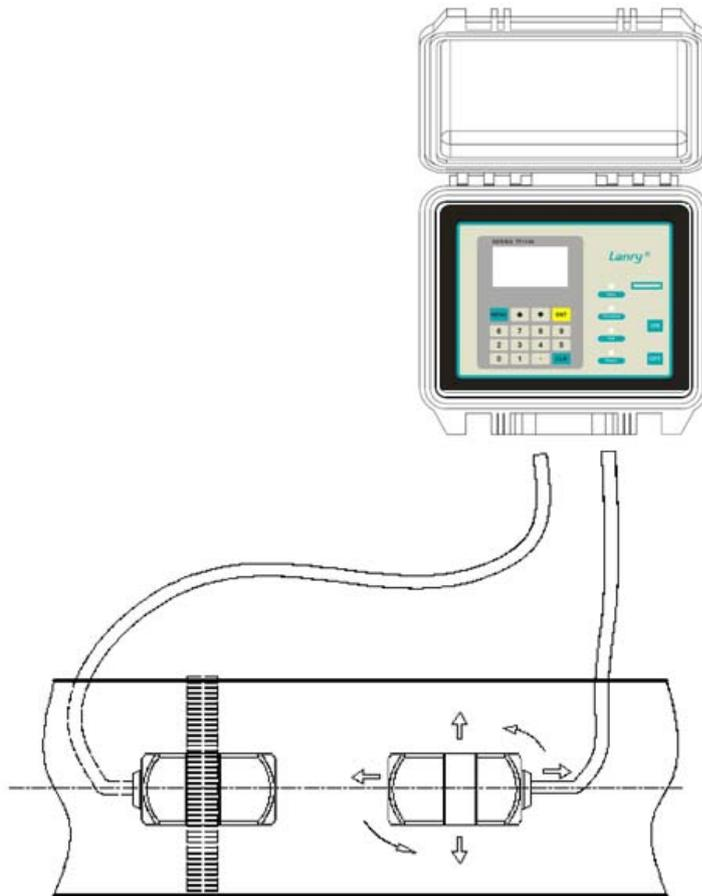

Figure 2.6 Z-Mode transducer placements
6. Place the downstream transducer on the pipe at the calculated transducer spacing. See **Figure 2.6**. Using firm hand pressure, slowly move the transducer both towards and away from the upstream transducer while observing Signal Strength. Clamp the transducer at the position where the highest Signal Strength is observed. Signal Strength of between 60 and 95 percent is acceptable. On certain pipes, a slight twist to the transducer may cause signal strength to rise to acceptable levels.